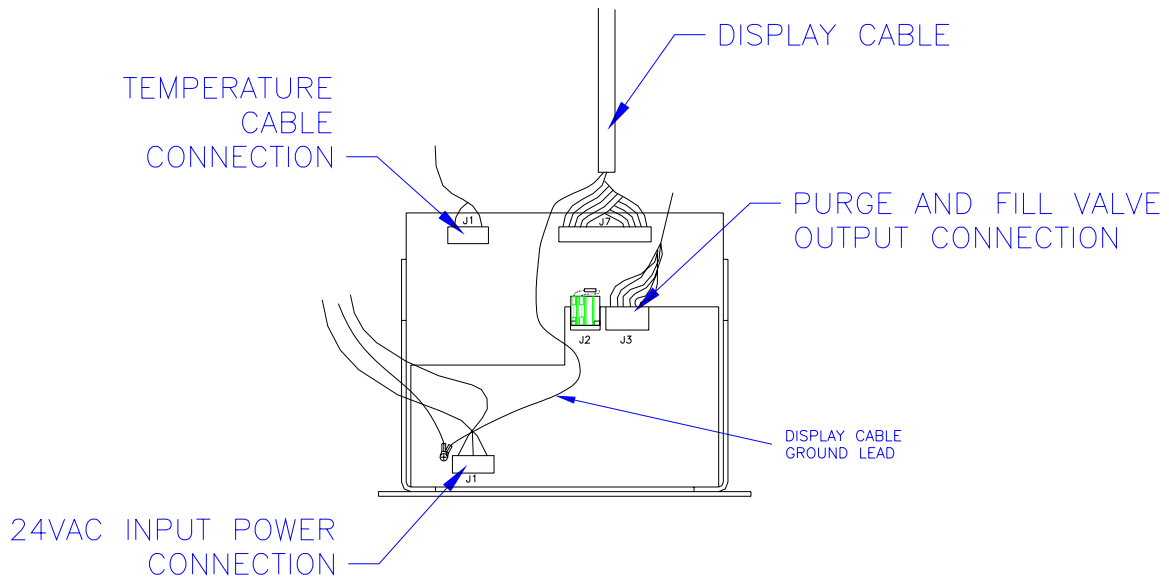
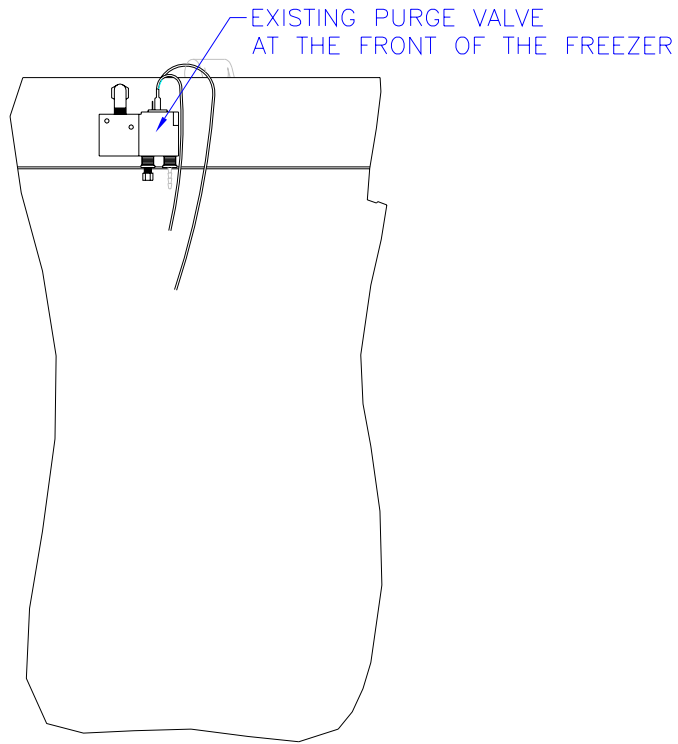

**Figure 4, TEC3000 CONTROL PANEL DETAILS**
**Figure 5, NEW WIRE HARNESS**
16. Tie the end of the display cable that is attached to the new rear panel (it has an RJ45 network type connection on it reference Figure 4) to the end of the original display cable and pull it through the cabinet using the original cable.
18. Connect the new intermediate temperature cable to the new rear panel at connections provided on the bottom of the panel. Reference Figure 4
19. Connect the new wire harness provided to the matching connector that is hanging from the new control panel. Reference Figure 4 and Figure 5
24. Connect the adapter harness to the main wire harness connector labeled "purge valve". Reference Figure 5
26. Connect the valve harness adapter to the new wire harness connection labeled "fill valve". Reference Figure 5.
27. Connect the level sensor tube to the hose barb on the valve of the new panel. Reference Figure 4.
28. Connect the 30VDC input cable from the power supply to the receptacle on the bottom of the new rear control panel. Reference Figure 4. This cable will have to pass out of the cabinet through the bottom.
20. Feed the display cable that is attached to the new rear panel (it has an RJ45 network type connection on it. reference Figure 4) through the oval cutout in the cabinet near the top of the panel that the control panel mounts in. Reference Figure 11.
30. Connect the new intermediate temperature cable to the new rear panel at the connections provided on the bottom of the panel. Reference Figure 4
31. Connect the new wire harness provided to the matching connector that is hanging from the new control panel. Reference Figure 4 and Figure 5
34. Connect the adapter harness to the main wire harness connector labeled "purge valve". Reference Figure 5
36. Connect the valve harness adapter to the new wire harness connection labeled "fill valve". Reference Figure 5.
37. Connect the level sensor tube to the hose barb on the valve of the new panel. Reference Figure 4.
40. Connect the 30VDC input cable from the power supply to the receptacle on the bottom of the new rear control panel. Reference Figure 4. Feed the input power cord through the opening in the rear of the cabinet.
14. Tie the end of the display cable that is attached to the new rear panel (it has an RJ45 network type connection on it. reference Figure 4) to the control panel end of the existing display cable, and pull the new display cable through the cabinet to the front panel.